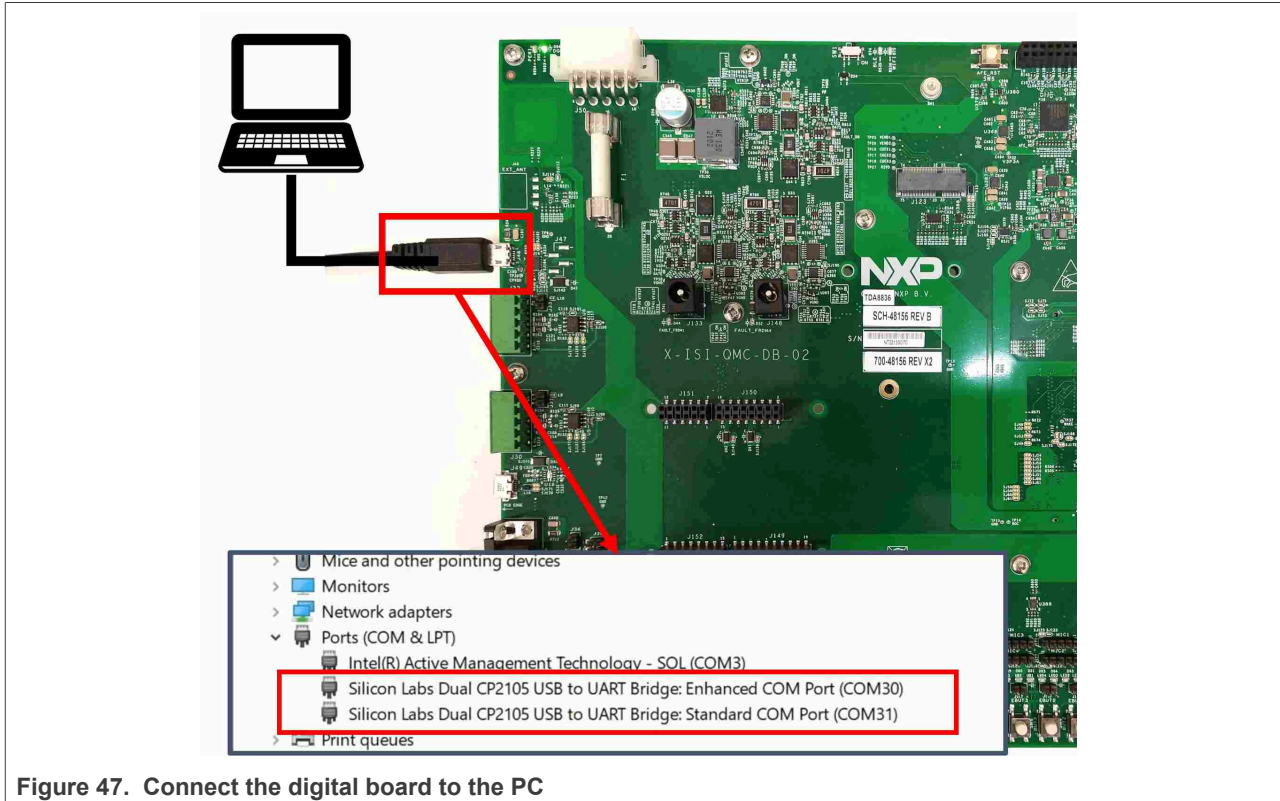
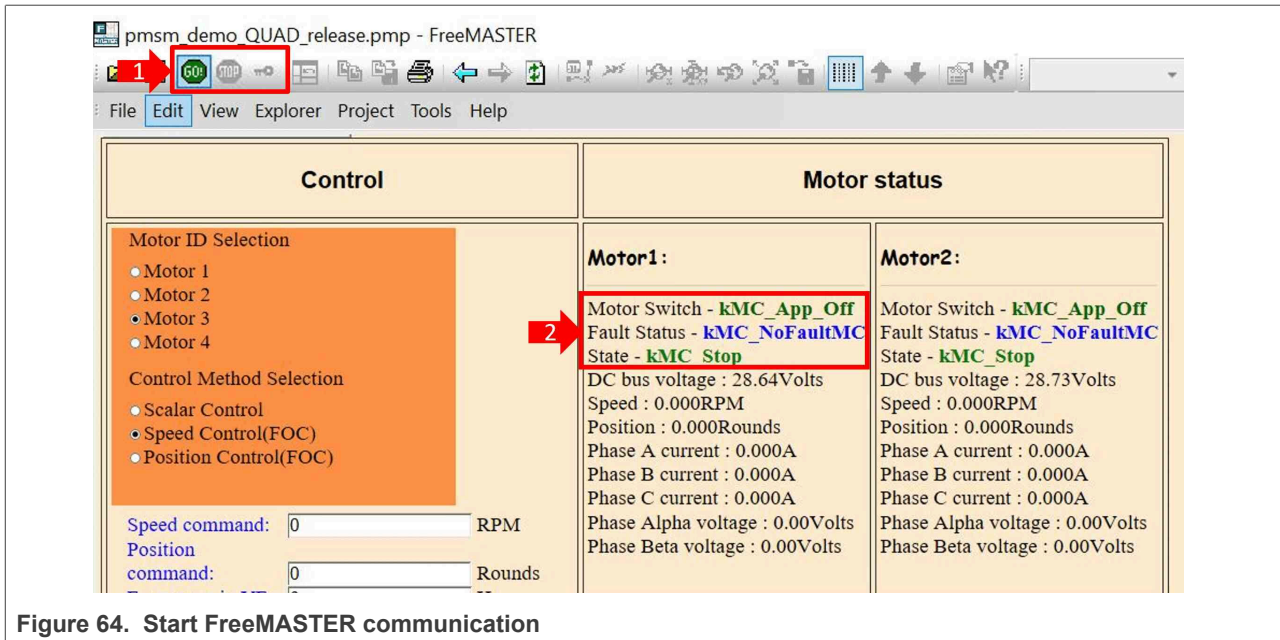

Figure 47. Connect the digital board to the PC
Figure 64. Start FreeMASTER communication
2. If you have not done it already, connect the digital board to the PC using the J48 connector as shown in Figure 47. If you open the Windows device manager, you should see two *Silicon Labs Dual CP2105 USB*
2. Open the FreeMASTER communication with the daughter card as shown in Figure 64. Before executing this step, make sure that the digital board is connected to the PC using the J48 micro-USB connector (see Figure 47).